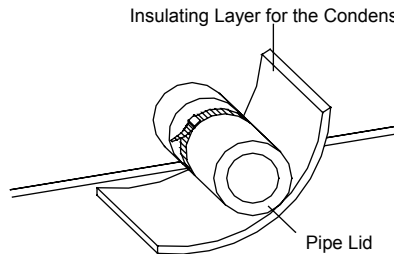

Fig.13 Thermal Insulation of the Condensate Pipe
- (1). The condensate pipe should keep a inclination angle of  $5 \sim 10^\circ$ , which can facilitate the drainage of the condensate water. And the joints of the condensate pipe should be insulated by the insulation material to prevent condensing(see Fig.13).